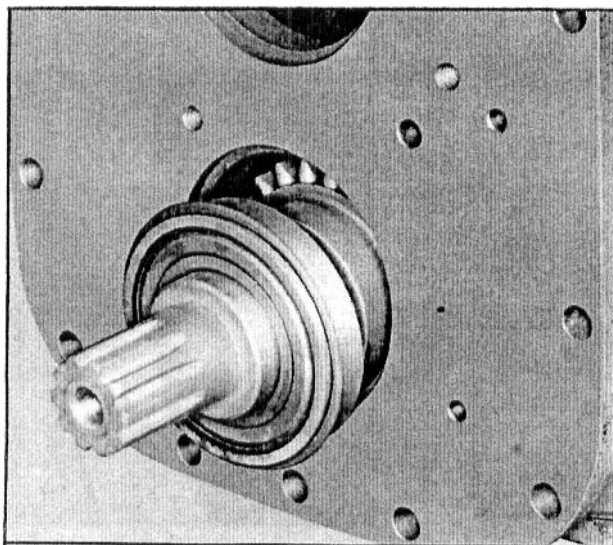

Fig. 58 — Removing the Lower Shaft
- i. The lower transmission shaft from the rear of the transmission, as shown in Fig. 58.